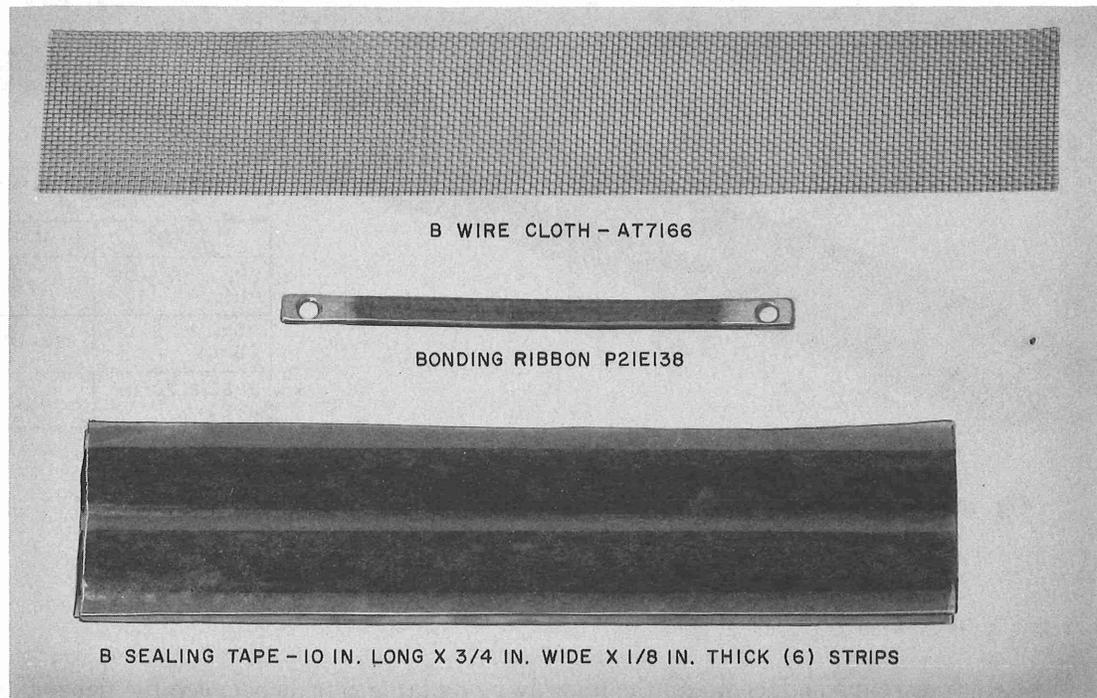

Fig. 13—Kit of Parts D-180660
- (a) D-180660 Kit of Parts (Fig. 13) (one kit required for each dual jacket entrance cable)